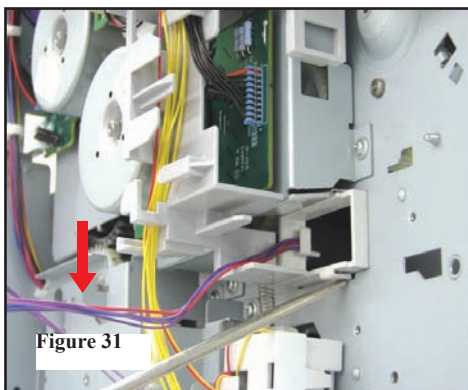

Figure 31
30. Remove cable protector behind power supply guide by first loosening purple cable (Figure 31, red arrow) from guides just for slack. Then pry lock tabs on 3 sides of the cable protector and let hang from purple cable underneath power supply.